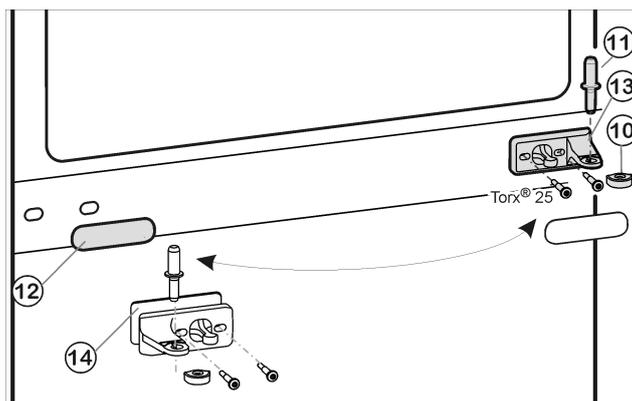
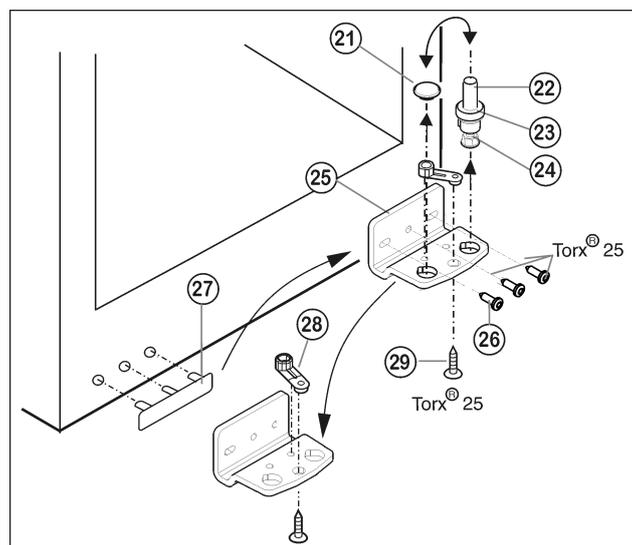

Fig. 5
Fig. 6
- ▶ Draw the middle bearing pin Fig. 5 (11) out of the turn hinge and lower door.
- ▶ Remove the plastic cap Fig. 5 (10).
- ▶ Unscrew the middle turn hinge (2x Torx® 25). Fig. 5 (13)
- ▶ Carefully detach the cover panel Fig. 5 (12).
- ▶ Turn the middle turn hinge Fig. 5 (13) with the washer Fig. 5 (14) through 180° and screw it firmly into place on the new hinge side (with 4 Nm).
- ▶ Turn the cover panel Fig. 5 (12) through 180° and snap it into place again on the new handle side.
- ▶ Lift out the bearing pin Fig. 6 (22) together with washer Fig. 6 (23) and foot Fig. 6 (24).
- ▶ Lift off the stopper Fig. 6 (21).
- ▶ Unscrew Fig. 6 (26) the turn hinge Fig. 6 (25).
- ▶ Unscrew Fig. 6 (29) the bearing element Fig. 6 (28), transfer it to the opposite location hole of the turn hinge and screw it firmly into place.
- ▶ Carefully lift off the cover on the handle side Fig. 6 (27) and transfer it to the opposite side.
- ▶ Screw the turn hinge Fig. 6 (25) firmly into place on the new hinge side, possibly using a cordless screwdriver (with 4 Nm).
- ▶ Re-insert the stopper Fig. 6 (21) into the other hole.
- ▶ Re-insert the bearing pin Fig. 6 (22) together with washer and foot. In so doing, pay attention that the locating lug points backwards
- ▶ Place the lower door from above onto the lower bearing pin *Fig. 6 (22)*.
- ▶ Place the plastic cap *Fig. 5 (10)* back onto the middle turn hinge *Fig. 5 (13)*.
- ▶ Place the middle bearing pin *Fig. 5 (11)* in the lower door, on the new hinge side, through the middle turn hinge *Fig. 5 (13)*.
- ▶ Place the upper door on the middle bearing pin *Fig. 5 (11)*.
- ▶ If necessary, align the doors to the appliance housing by way of the two oblong holes in the bottom turn hinge *Fig. 6 (25)* and middle turn hinge *Fig. 5 (13)*. To do so, unscrew the middle screw in the bottom turn hinge *Fig. 6 (25)*.